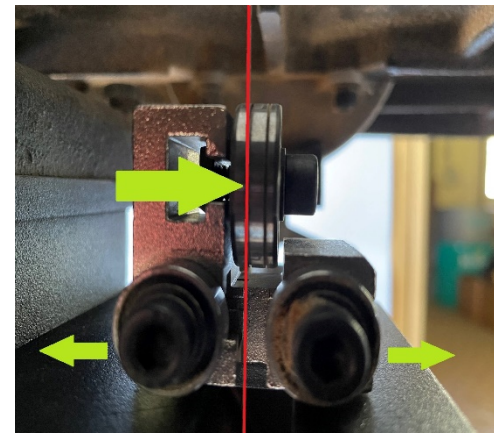

Figure 7
- Move the two lateral bearings of the blade guide apart. (Fig 7)
The scroll saw will be guided by the **left** groove. (Fig 7)